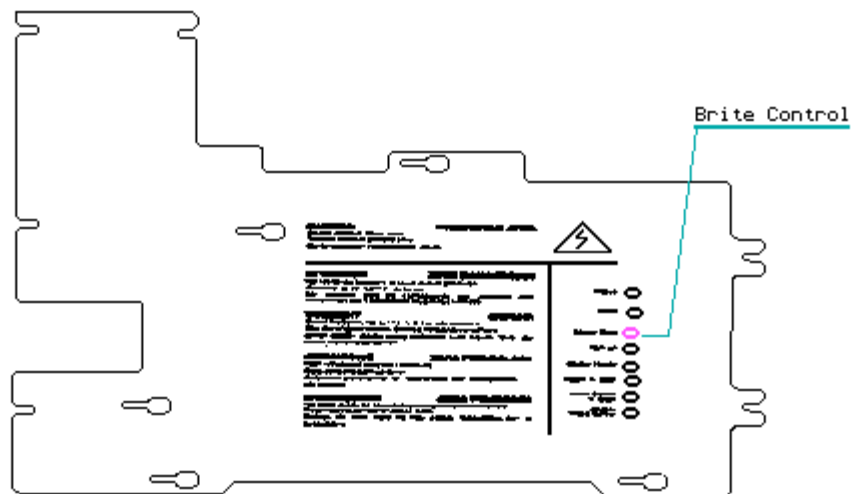

Figure 8-21. Adjusting the CRT BRITE Control
6. Using the label on the high voltage access plate as a guide, locate and adjust the BRITE control until the screen raster appears on the display. Check this display to make sure it is not tilted in any way (Figure 8-21.)